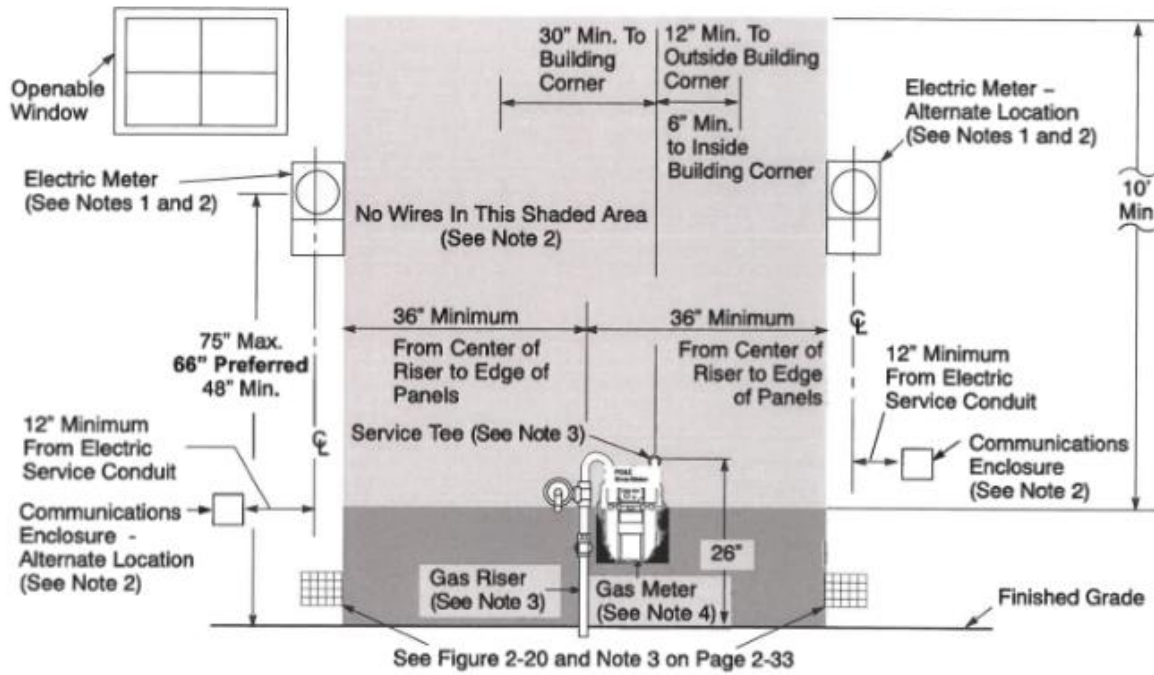

Figure 2-19
Notes in Reference to Figure 2-19.
4. The minimum dimensions and clearances in figure 2-19 are good for gas meters up to the 1,000 class. See Figure 2-15 on Pages 2-26 and 2-27 for illustrations of clear and level working space in front of the gas meter.